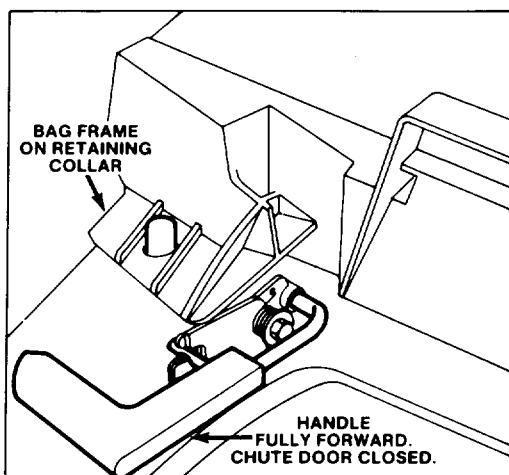

Figure 9
2. Assure chute door handle is fully forward and pin is engaged in catch (Fig. 9).
3. **INSTALLING BAG** — Slide hole in bag frame onto the retaining collar on housing (Fig. 9) and set rear of bag frame onto lower handle.
5. **EMPTYING BAG** — Stop engine and wait for all parts to stop. Move chute door handle forward to engage the locking pin with catch (Fig. 9). Grasp handle at front and rear of bag and lift bag off mower. Gradually tip bag forward to empty clippings.